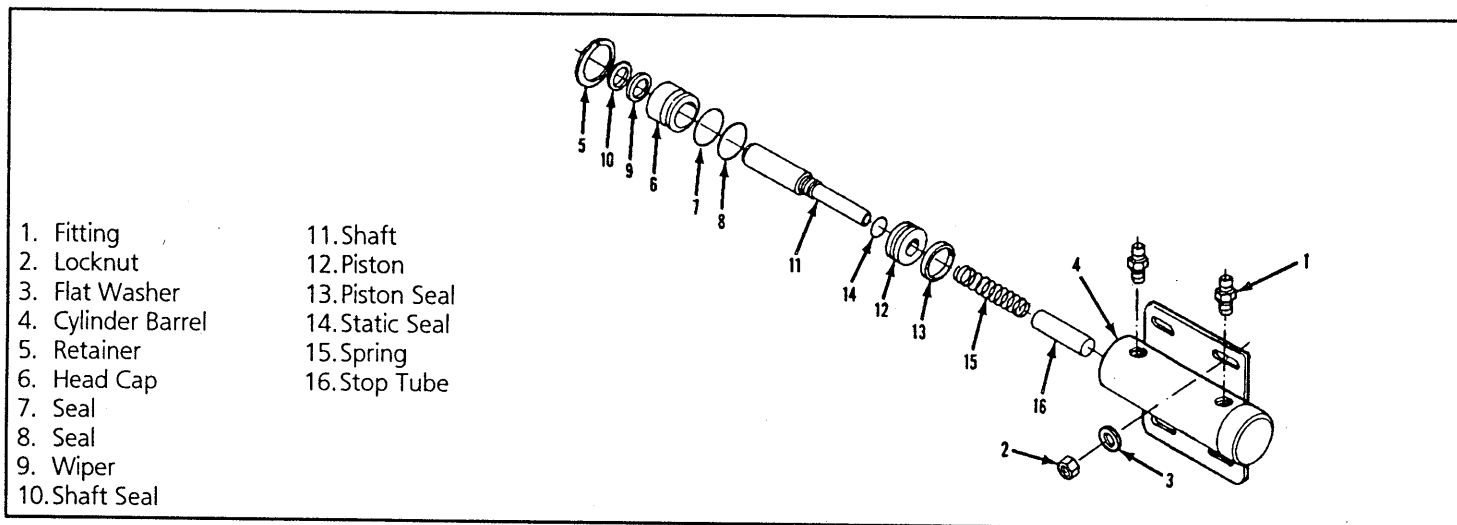

Figure 4-12: Brake Cylinder
4.11 Brake Cylinder (Figure 4-12)